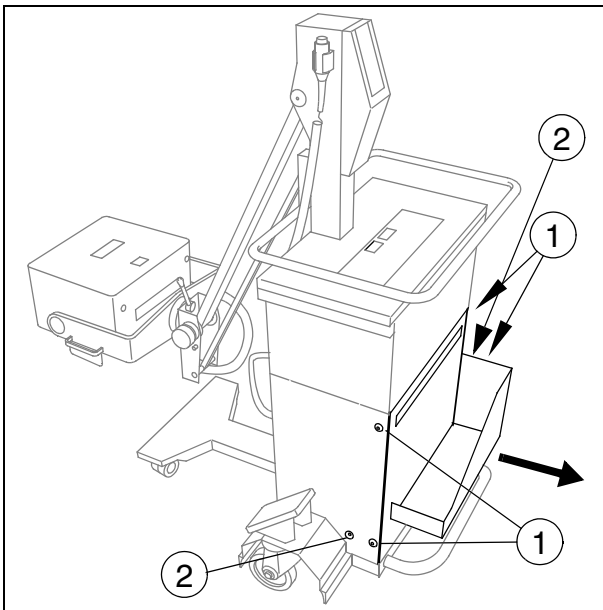

Fig. 11
- Remove the two cover screws on each side (1/Fig. 11) and remove the cover (with cassette drawer).
- Remove one cover screw on each side (2/Fig. 11).